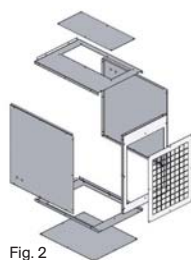

Fig. 2
- back intake chamber (fig. 2);